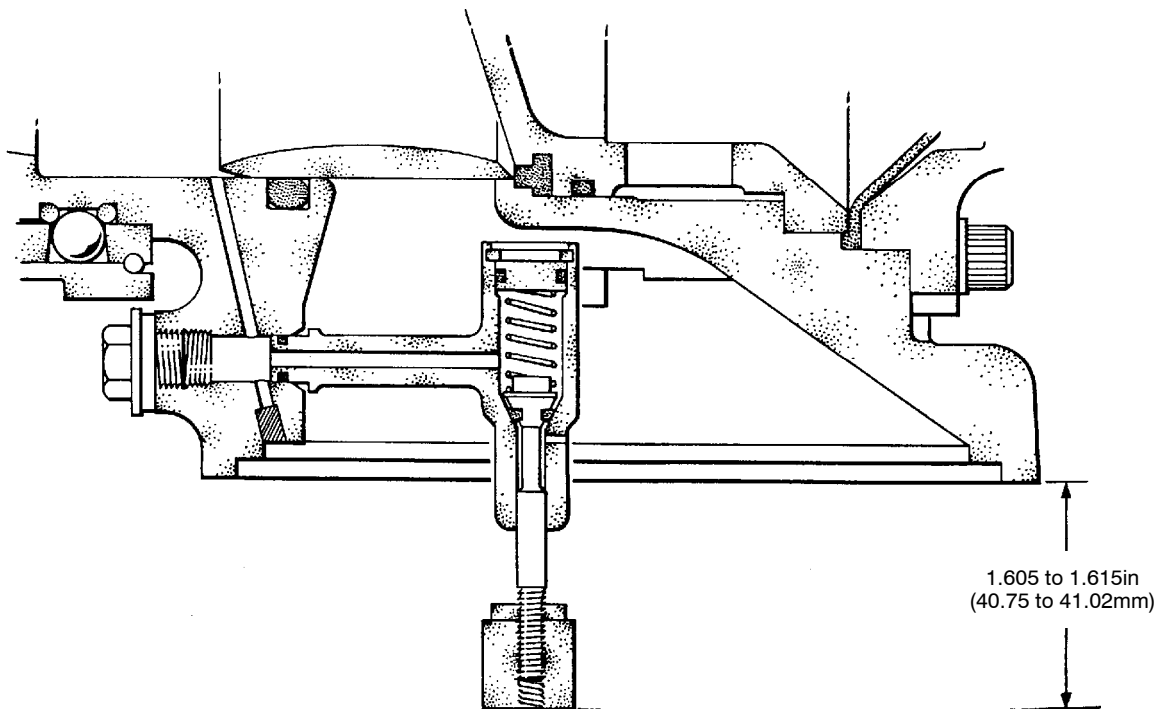

Fig 5.6 Relief valve adjustment
- 4.3.19 Adjust the nut (50) to the dimension shown in Fig 5.6 and tighten locknut (49).